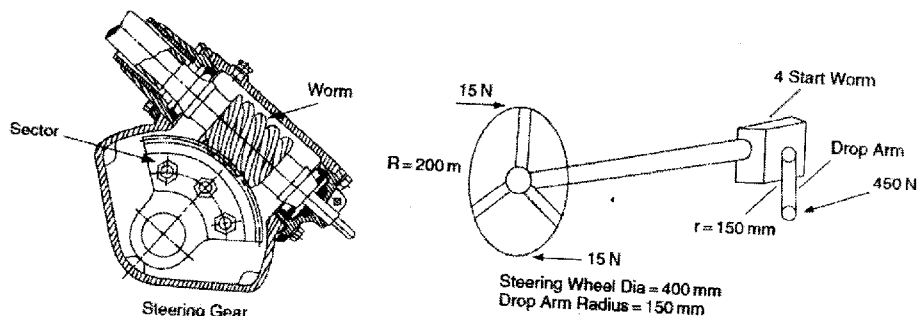

Fig. 1
- A worm and sector steering gear of the type shown in figure 1 has a 4-start worm and a sector that is a sector of a 48-tooth worm wheel. The steering wheel has a diameter of 400 mm and the drop arm has a length of 150 mm. Two tangential forces each of 15 N applied at the rim of the steering wheel produce a force in the drag link of 450 N, which acts at right angles to the drop arm. Calculate :